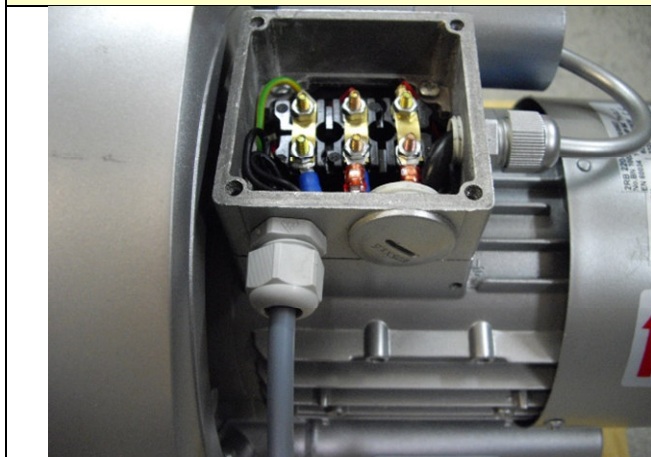

Fig. 3
- Insert the 230 V connection cable (see Fig. 3).